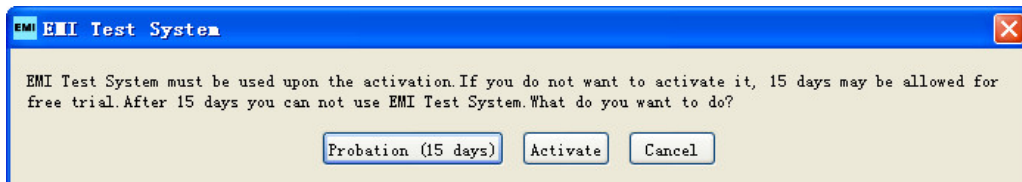
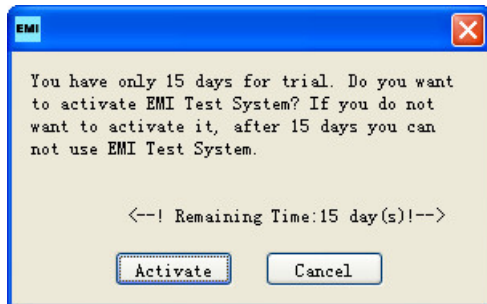
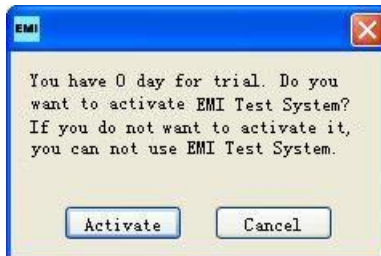
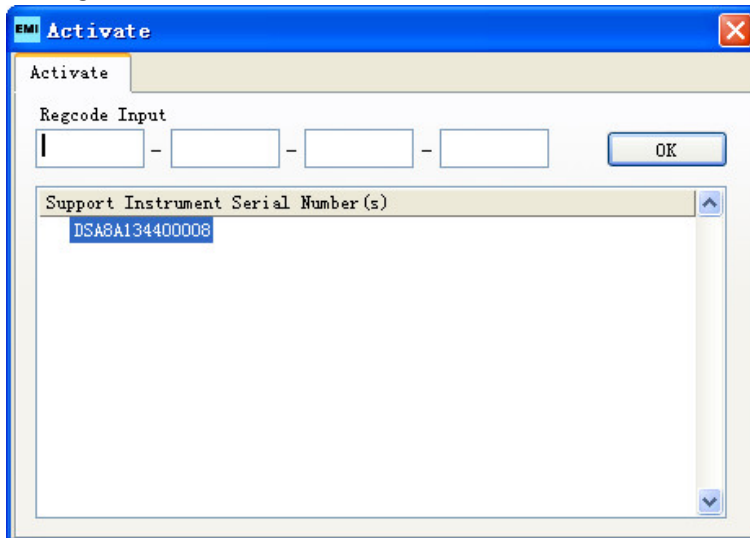

Figure 2-1 Trial Prompt Message
Figure 2-2 Remaining Trial Time Prompt Message
Figure 2-3 Trial Period Expiration Prompt Message
Figure 2-4 Software Activation Interface
When **EMI Test System** is started for the first time, the prompt message as shown in Figure 2-1 is displayed.
- (1) Click **“Probation (15 days)”**; **EMI Test System** enters the trial mode and starts timing. Within the trial period, the prompt message as shown in Figure 2-2 is displayed each time the software is started. When the 15-day trial period expires, the prompt message as shown in Figure 2-3 is displayed; at this point, you can only use the software by registration or you can click **“Cancel”** to exit the program.
- (2) Click **“Activate”** and the dialog box as shown in Figure 2-4 is displayed. You can input the registration code to activate the software or close the dialog box directly to close the software.
- (3) Click **“Cancel”** and the software is closed.
Click "**Activate**" in the popup prompt message box (Figure 2-1, Figure 2-2, Figure 2-3) each time the software starts to enter the activate interface as shown in Figure 2-4.